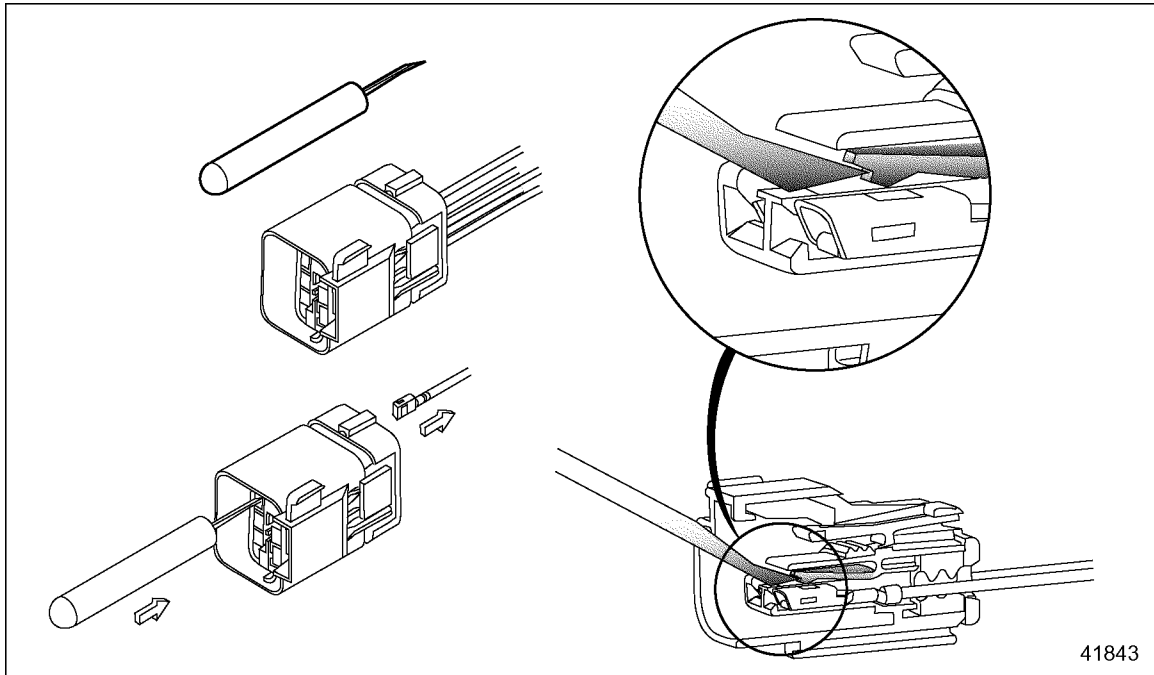

Figure 3-45 Pressing the Locking Tang
- Using a FCI APEX repair tool (P/N: 54900002) or a #2 jeweler's screwdriver, press back the terminal locking tang (see Figure 3-45).